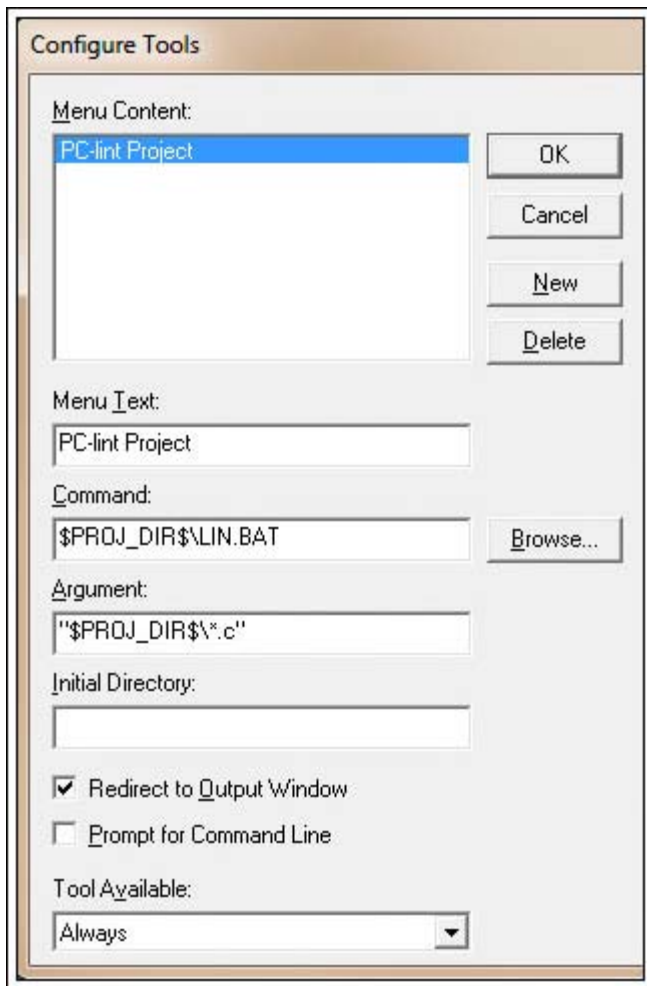

Figure 4. IAR Configure Tools menu.
6. Open your IAR project. From the task bar select Tools > Configure Tools > New. Fill in these parameters and check the box for Redirect to Output Window. Figure 4 shows how the end result should look. Once completed, select OK.